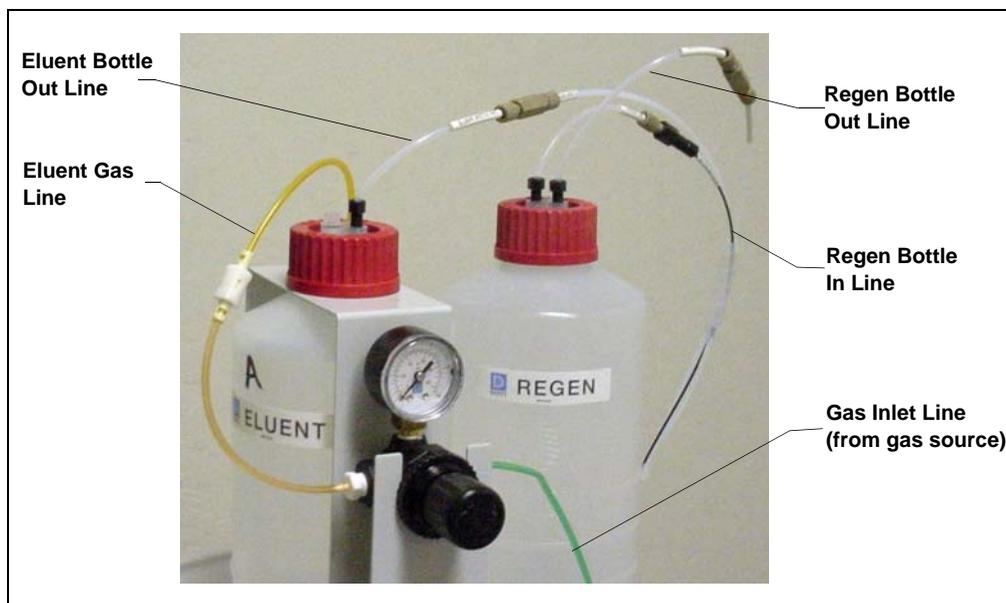

Figure B-18. Reservoir Connections
8. Connect the liquid lines from the ICS-90 to the lines exiting the eluent and regenerant reservoir caps (see Figure B-18) as follows: